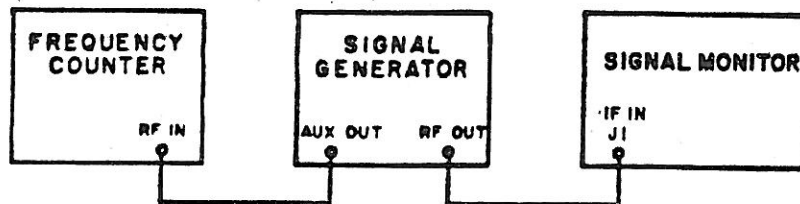

Figure A-6. Test Setup, 21.4 MHz IF Amplifier Touch-Up Alignment
- (1) Connect the equipment as shown in Figure A-6.
- (2) Set the Signal Monitor front panel controls as follows:
- (3) After the marker is centered on the CRT, turn it off.
- (4) Set the signal generator to 21.4 MHz at a level to give a pip at about 3/4 scale.
- (5) Tune the signal generator through the range of 20.4 MHz to 22.4 MHz observing for symmetry, and the minimum and maximum pip heights.